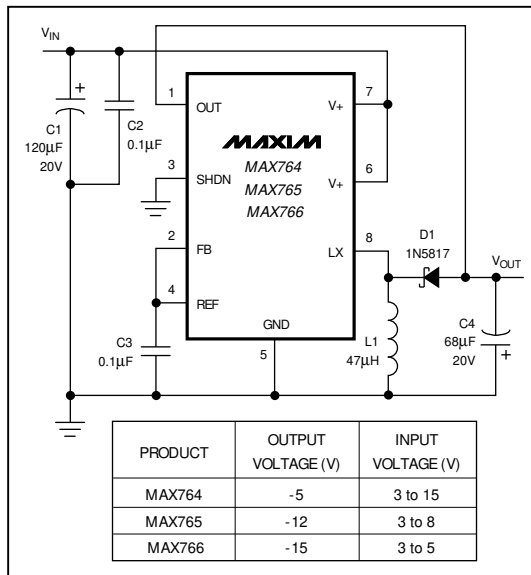

Figure 2. Fixed Output Voltage Operation
**Note 2:** Circuit of Figure 2.
CIRCUIT OF FIGURE 2,  $V_+ = 5V$ ,  $I_{LOAD} = 100mA$ ,  $V_{OUT} = -5V$
CIRCUIT OF FIGURE 2,  $V_+ = 5V$ ,  $V_{OUT} = -5V$
CIRCUIT OF FIGURE 2,  $V_{OUT} = -5V$ ,  $I_{LOAD} = 100mA$
CIRCUIT OF FIGURE 2,  $V_+ = 5V$ ,  $V_{OUT} = -5V$ ,  $I_{LOAD} = 140mA$
CIRCUIT OF FIGURE 2, V+ = 5V, VOUT = -5V, ILOAD = 80mA
CIRCUIT OF FIGURE 2, V+ = 5V, VOUT = -5V, ILOAD = 240mA
Figures 2 and 3 show the standard application circuits for these devices. In these configurations, the IC is powered from the total differential voltage between the input (V+) and output (VOUT). The principal benefit of this arrangement is that it applies the largest available signal to the gate of the internal P-channel power MOSFET. This increased gate drive lowers switch on-resistance and increases DC-DC converter efficiency.